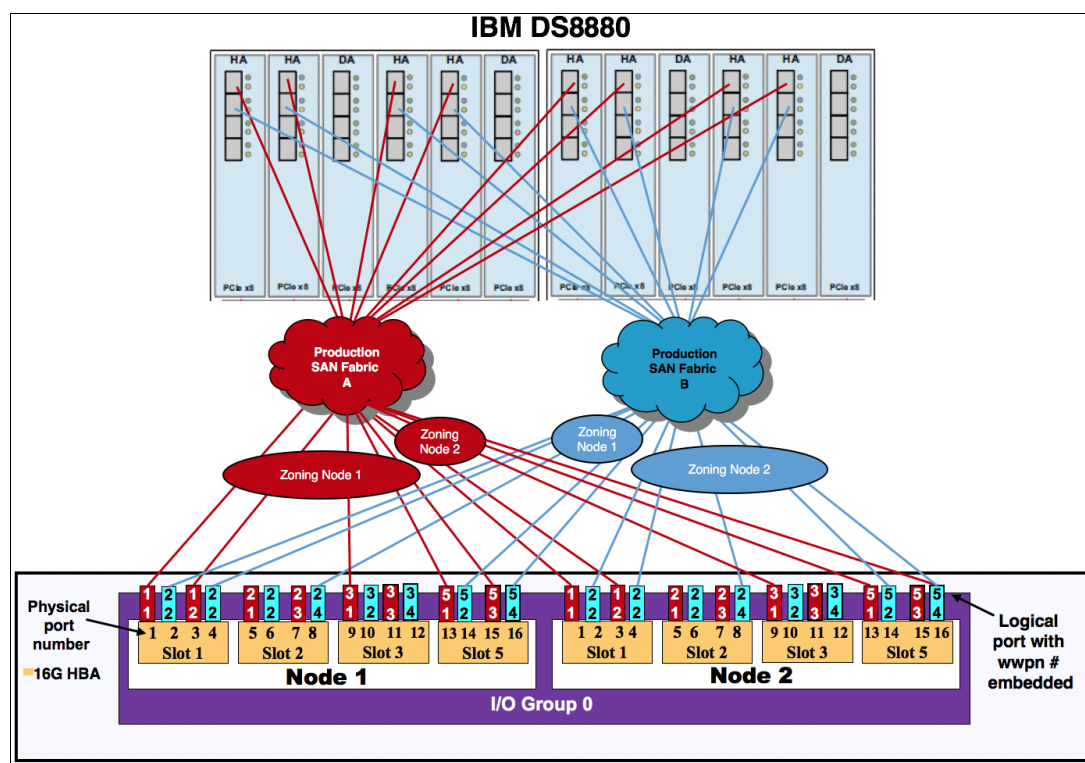

Figure 2-26 DS8886 to SAN volume controller connectivity
Figure 2-26 shows the connectivity between a SAN Volume Controller and a DS8886.
**Note:** Figure 2-26 is valid example to be use for DS8900F to SAN Volume Controller connectivity as well.
Notice that in Figure 2-26 on page 52, 16 ports are zoned to the SAN Volume Controller and the ports are spread across the different HBAs that are available on the storage.